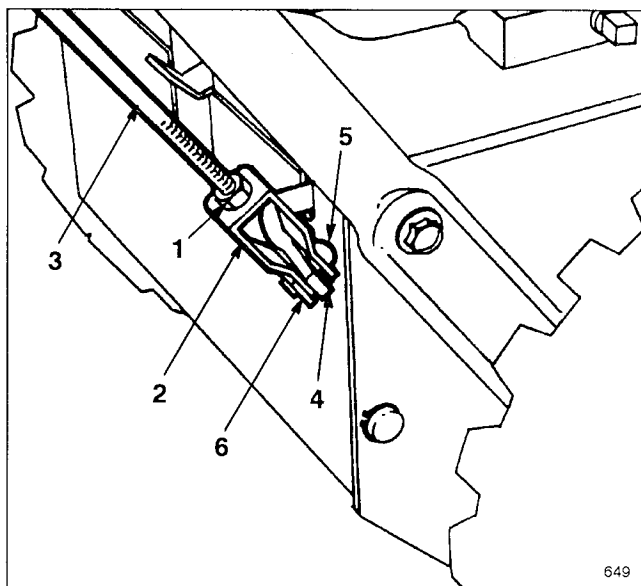

Figure 8
1. Loosen jam nut above clevis on upper control rod (Fig. 8).
2. Align holes in clevis and lower control rod and insert clevis pin (Fig. 8).
5. To adjust the distance, remove clevis pin, loosen jam nut and thread clevis up or down to increase or decrease distance between handgrip and auger control lever (Fig. 8).
6. When adjustment is correct, install clevis pin and secure it in place with the cotter pin. Tighten jam nut to secure clevis (Fig. 8).